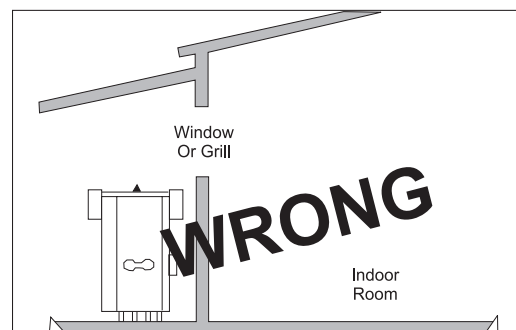

Figure 4. Incorrect Outdoor Installation.
- Do not locate the boiler in an enclosure or wall recess. Avoid locations where wind deflection off structures might cause down draft. When such wind conditions are possible, locate the unit at least three (3) feet from the structures.
- Never install the pool heater under any kind of roof overhang. Do not locate the unit below or adjacent to any doors, windows, louvers, grills, etc. which communicate in any way with an inhabited area of a building. Even though such communication might be through another structure such as a garage or utility room (see Figure 4).